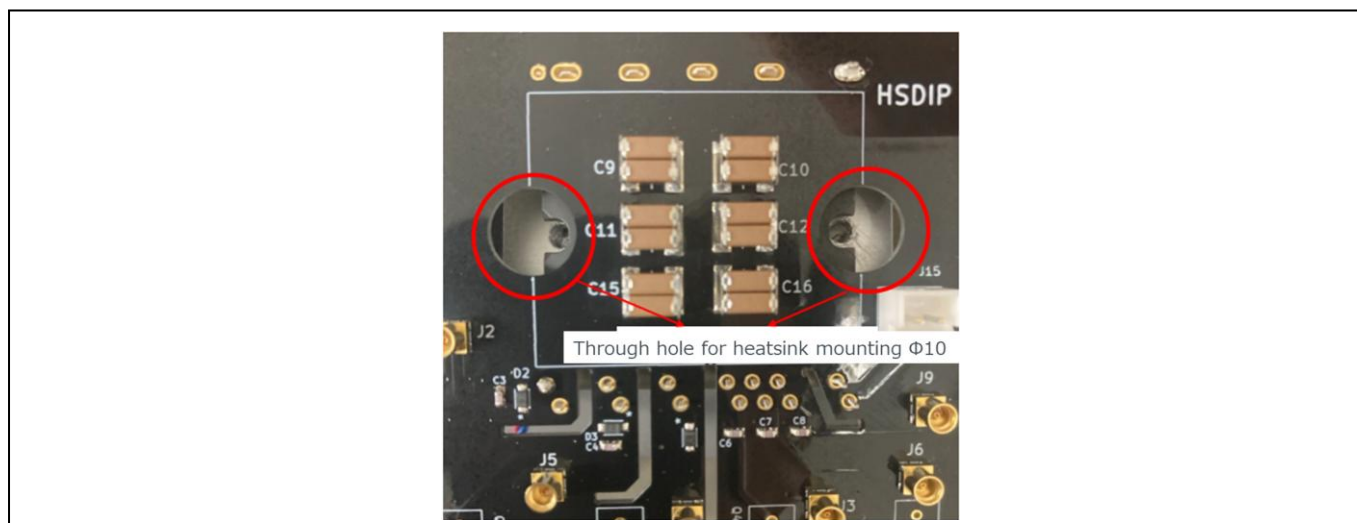

Figure 6-4. Alignment of a heat sink
Step (2): Put the evaluation board onto a heat sink with tapped holes and align them such that the tapped holes (M3) can be seen. Refer to Figure 6-4 “Alignment of a heat sink.”